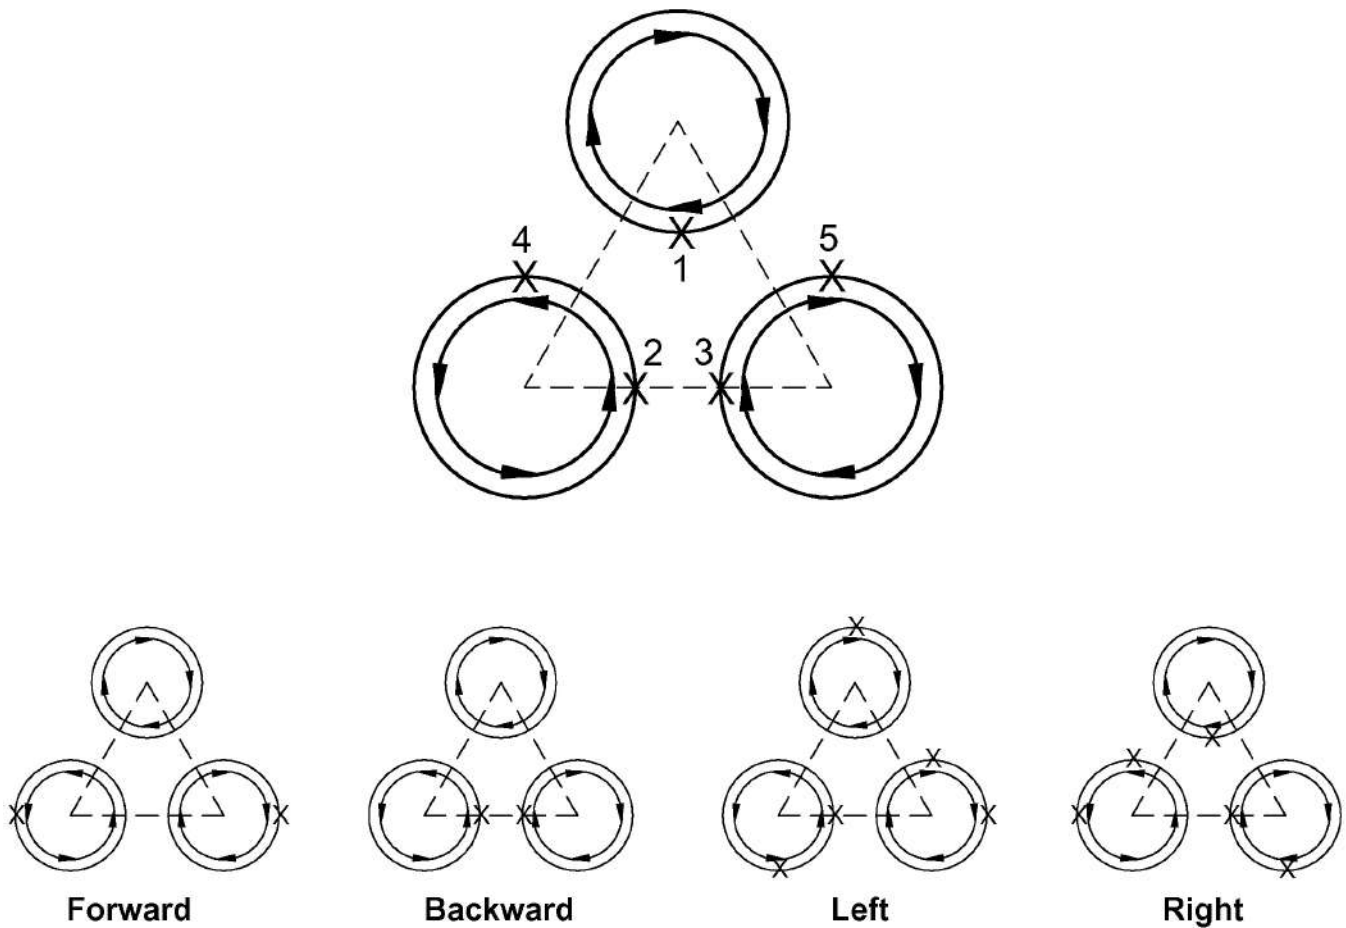

Figure 5
- f. If the machine still does not respond properly to the controls, refer to Figure 5 for corrective procedures.